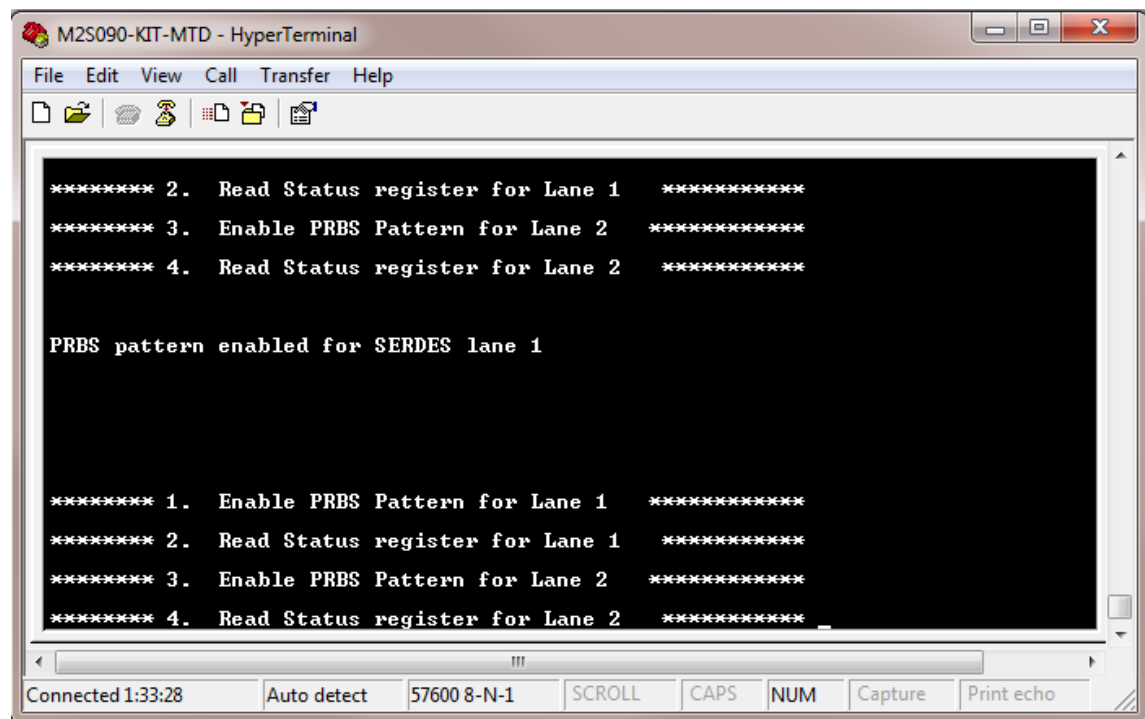

Figure 46 SERDES Lane1 Loopback Test
17. Press **1** to enable PRBS pattern for Lane 1. Refer to Figure 46.